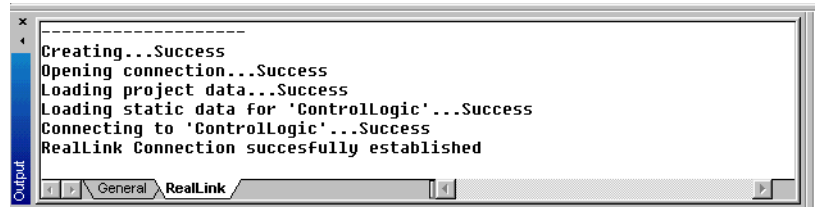

Figure 170: Validator output window
- 2 If the connection is successfully established, the Validator output window (RealLink tab) will display the message shown in *Figure 170*, page 220.